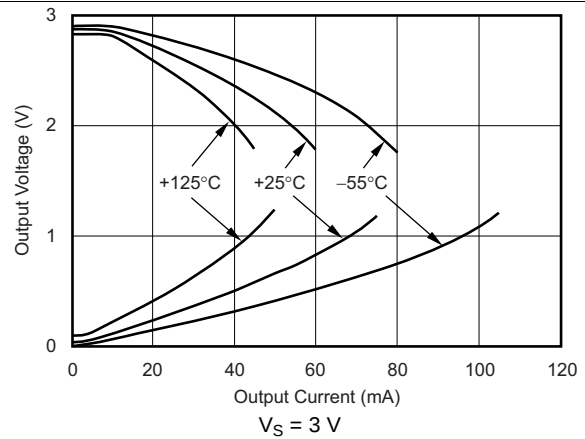
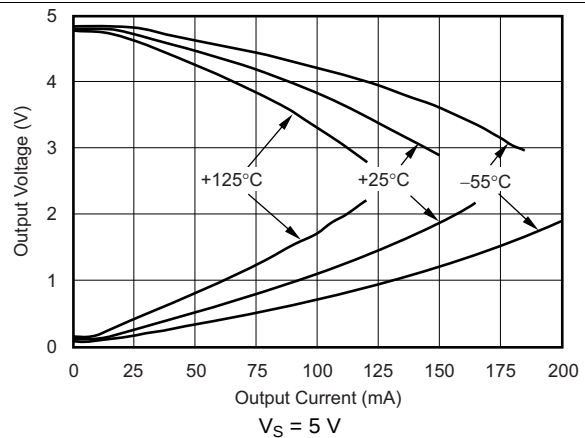

FIG 20. Output Voltage Swing vs Output Current
FIG 22. Output Voltage Swing vs Output Current
(1) See typical characteristic curves, *Output Voltage Swing vs Output Current* (Fig. 20 and Fig. 22).
(2) Specified by design.
A class AB output stage with common-source transistors achieves rail-to-rail output. For high-impedance loads ($> 200 \Omega$), the output voltage swing is typically 100 mV from the supply rails. With 10- Ω loads, a useful output swing is achieved while maintaining high open-loop gain. See the typical characteristic curves, *Output Voltage Swing vs Output Current* (Figure 20 and Figure 22).
The OPAx354 output stage supplies a continuous output current of ± 100 mA and yet provide approximately 2.7 V of output swing on a 5-V supply, as shown in Figure 30. For maximum reliability, TI does not recommend running a continuous DC current in excess of ± 100 mA. See the typical characteristic curves, *Output Voltage Swing vs Output Current* (Figure 20 and Figure 22). For supplying continuous output currents greater than ± 100 mA, the OPAx354 may be operated in parallel, as shown in Figure 31.